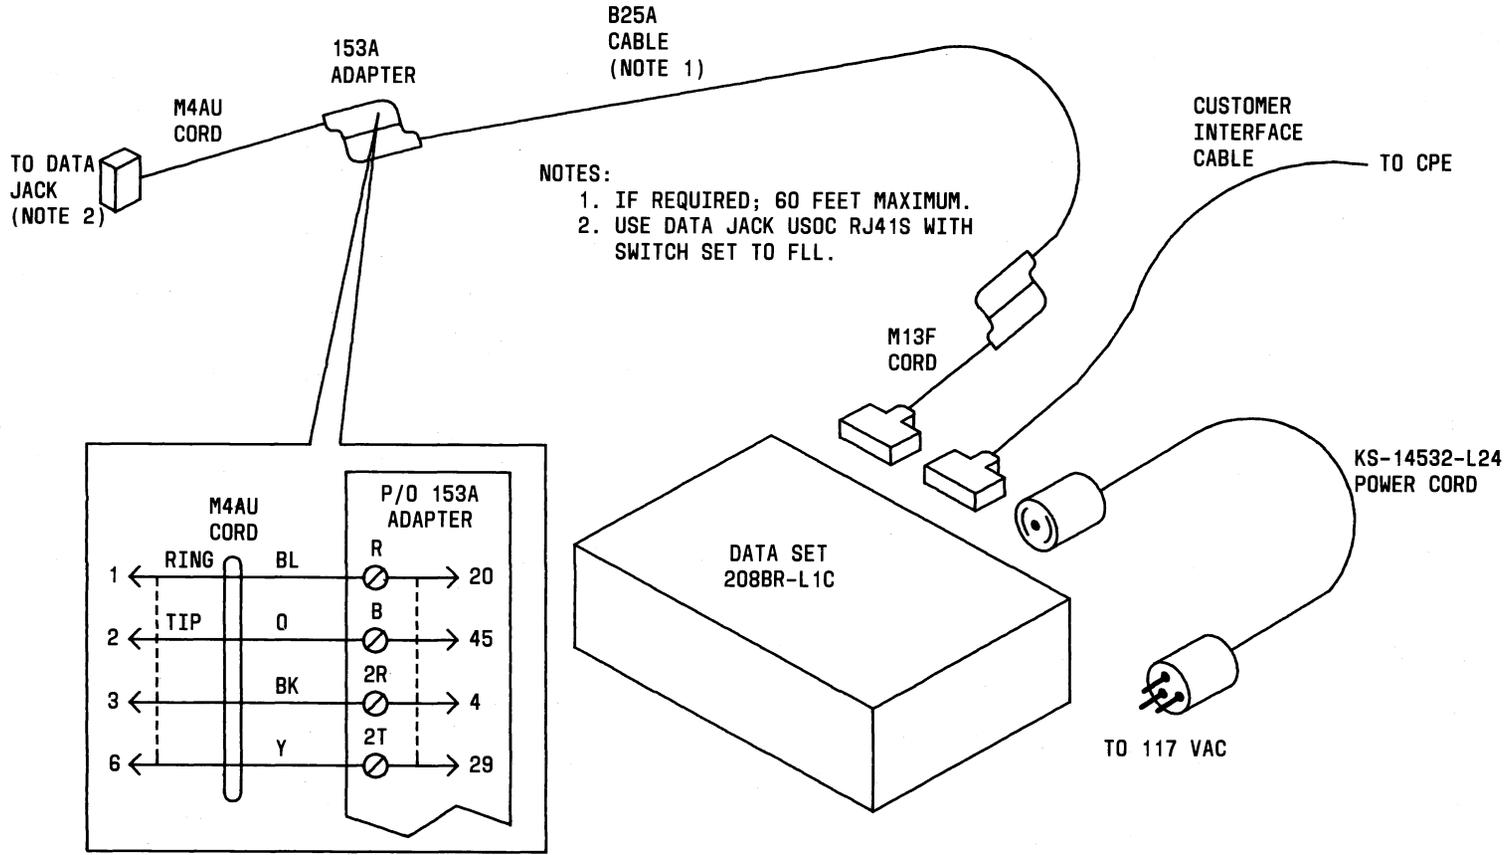
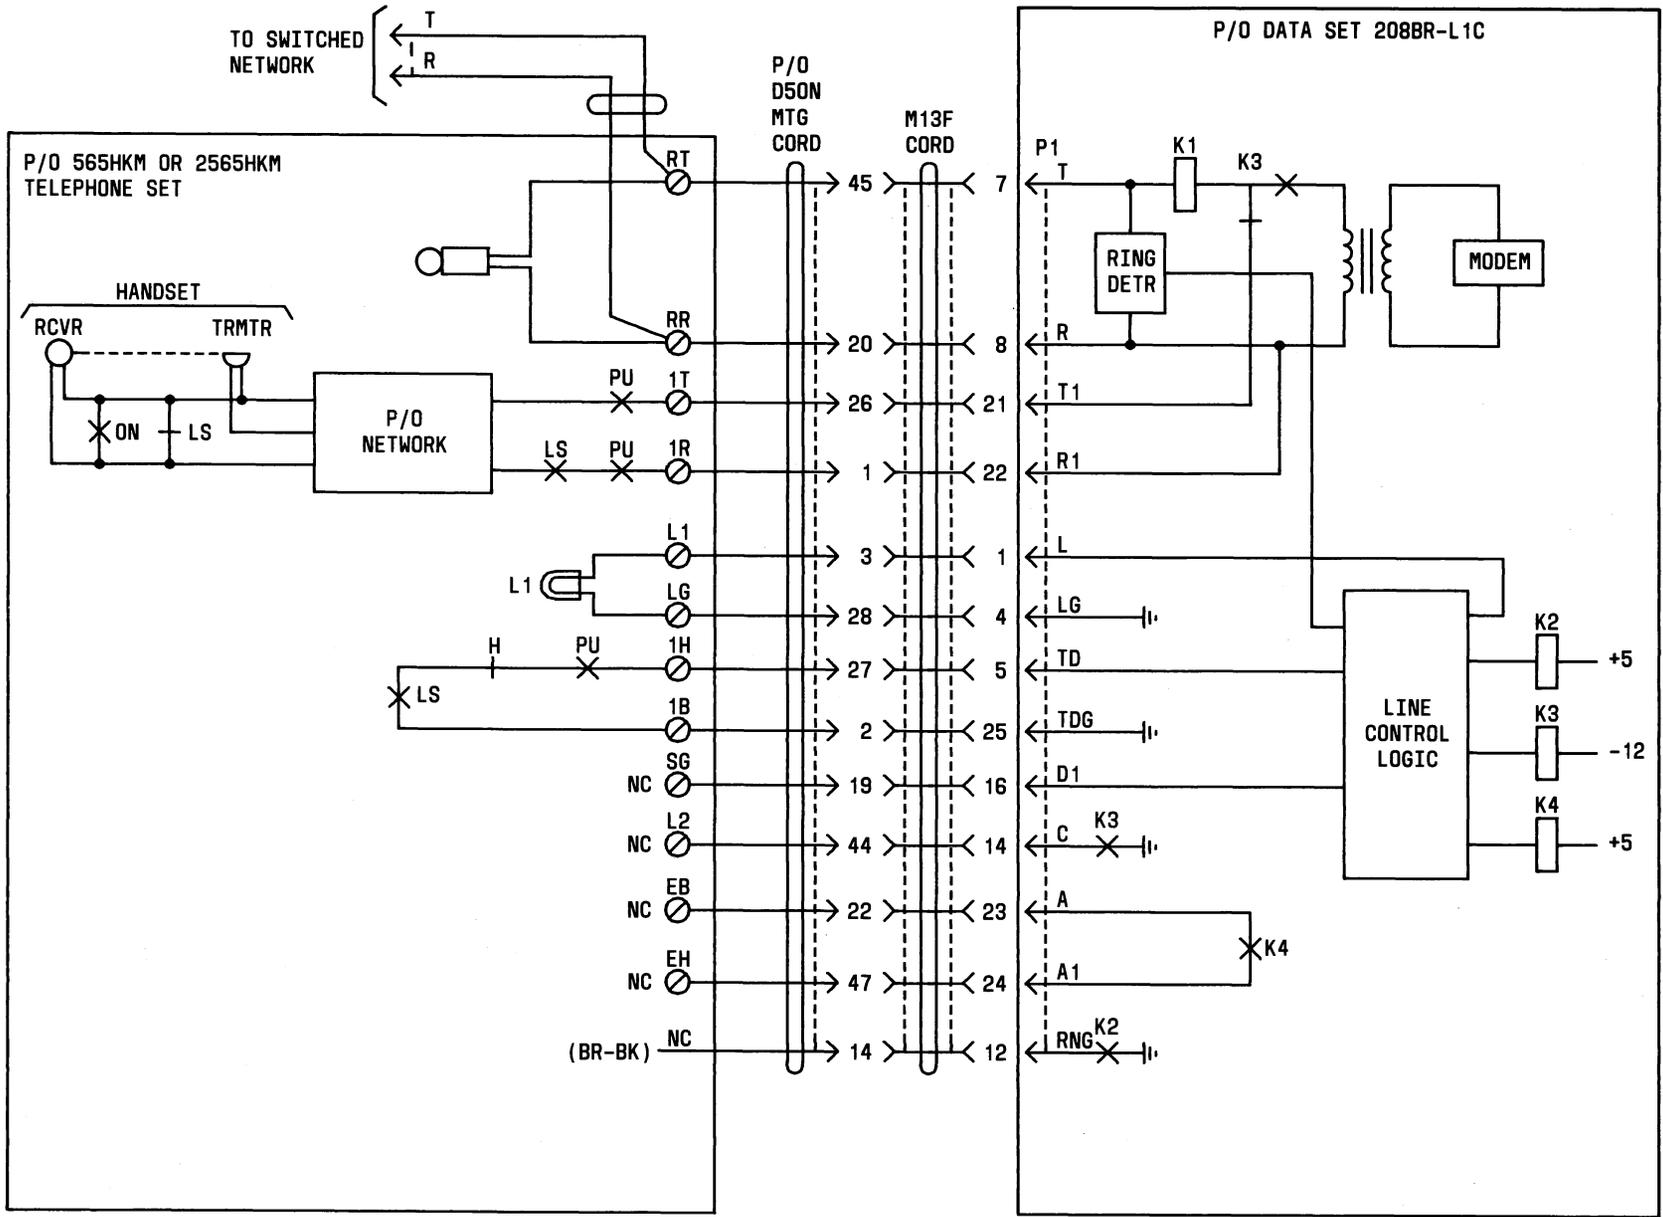

Fig. 5—Single Data Set Connection Diagram
Fig. 15—Data Set 208BR-L1C With Telephone Set—Interface Diagram
**4.01** Station arrangements in paragraphs 4.02 through 4.11 comply with the FCC registration program. A connection diagram (Fig. 5 through 14) and a list of components required are provided for each arrangement. It is recommended that in each case the power connection(s) be made last. Figures 15 through 19 are provided to aid troubleshooting of the arrangements.
**4.02 Single Data Set:** The connection diagram for this arrangement is Fig. 5.